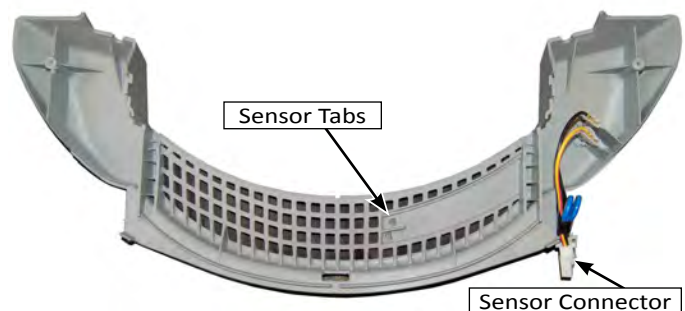

Figure 3
7. Separate the two halves of the Outlet Grill & Housing Assembly to access and remove the moisture sensor (see Figure 3).